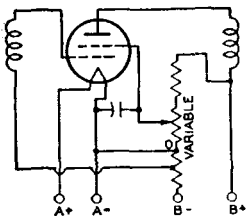

Fig. 71
The positive voltage for the screen (grid No. 2) of screen-grid tubes may be obtained from a tap on a voltage divider, from a potentiometer, or from a series resistor connected to a high-voltage source, depending on the structure of the particular tube type and its application. The screen voltage for tetrodes should be obtained from a voltage divider or a potentiometer rather than through a series resistor from a high-voltage source because of the characteristic screen-current variations of tetrodes. Fig. 71 shows a tetrode with its screen voltage obtained from a potentiometer. When pentodes or beam power tubes are operated under conditions where a large shift of plate and screen currents does not take place with the application of the signal, the screen voltage may be obtained through a series resistor from a high-voltage source. This method of supply is possible because of the high uniformity of the screen-current characteristic in pentodes and beam power tubes. Because the screen voltage rises with increase in bias and resulting decrease in screen current, the cutoff characteristic of a pentode is extended by this method of supply. The method is sometimes used to increase the range of signals
**Screen-voltage variation** for the rf amplifier stages has sometimes been used for volume control in older-type receivers. Reduced screen voltage lowers the transconductance of the tube and results in reduced gain per stage. The voltage variation is obtained by means of a potentiometer shunted across the screen voltage supply. See Fig. 71. When the screen voltage is varied, it is essential that the screen voltage never exceed the rating of the tube. This requirement can be met by providing a fixed stop on the potentiometer.